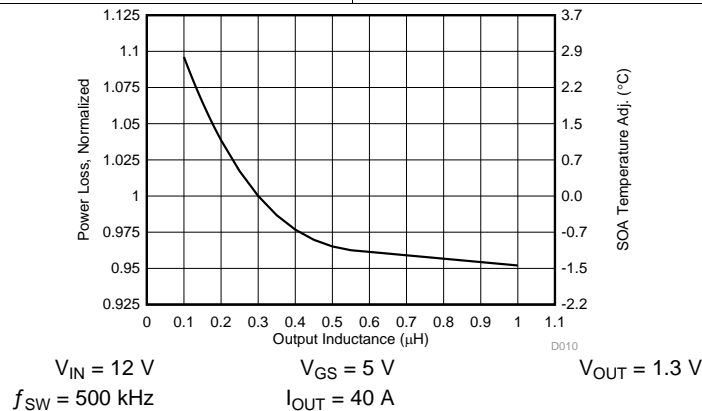

Figure 9. Normalized Power Loss vs Output Inductance
- Normalized Power Loss for output inductor ≈ 1.07 (Figure 9)
- SOA adjustment for output inductor $\approx 1.6^\circ\text{C}$ (Figure 9)